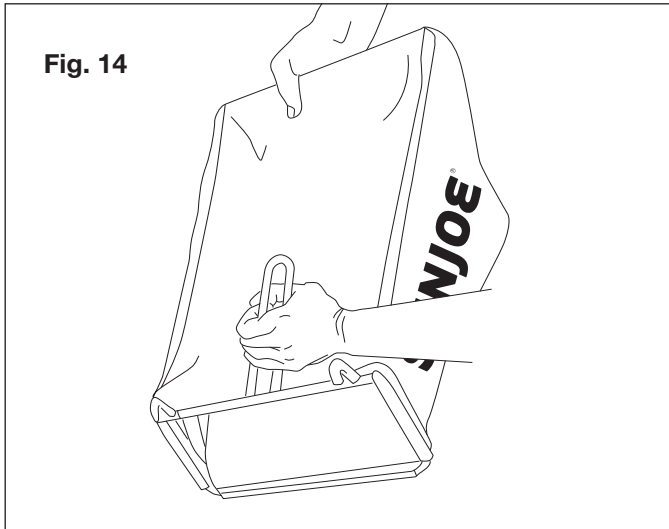

Fig. 14
2. Empty the grass collection bag (Fig. 14).